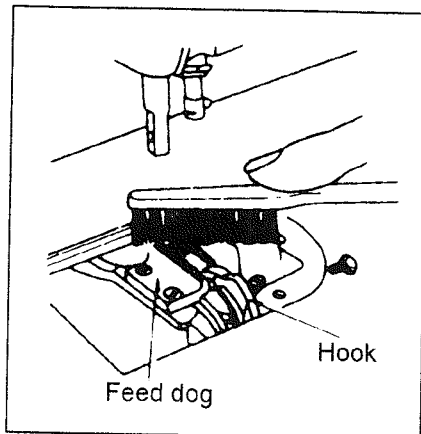
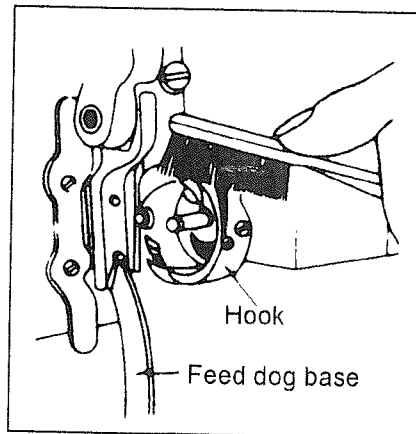
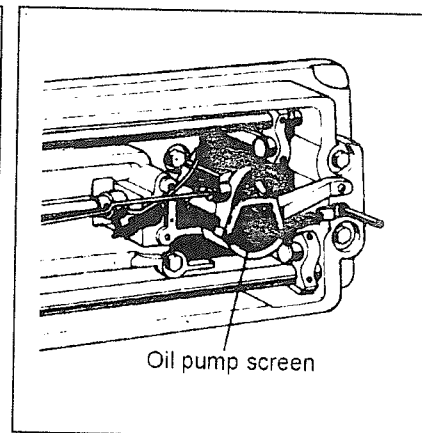

Fig.13
Fig.14
Fig.15
14、 Periodical cleaning (Fig.13, Fig.14, Fig.15):